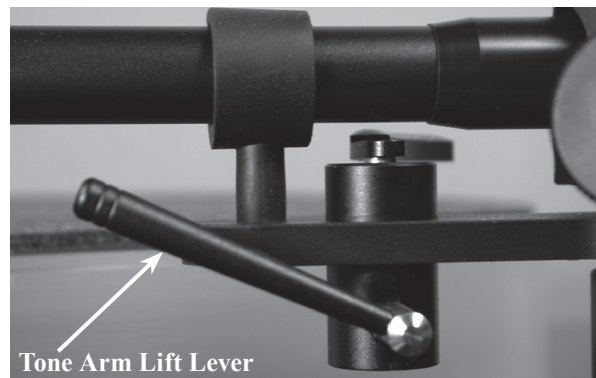

Figure 52
1. Push on the top part of the Tone Arm Lift Lever towards the rear of the turntable. Refer to figure 52.